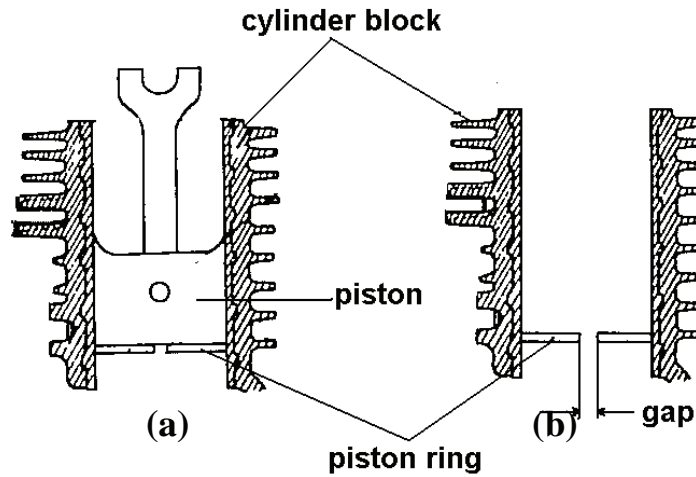

Figure 5. Ring End Gap Measurement.
- b. Push the piston ring into the cylinder block using the head of the piston. See Figure 5 (a).
- c. Remove the piston and leave the piston ring inside. See Figure 5 (b).